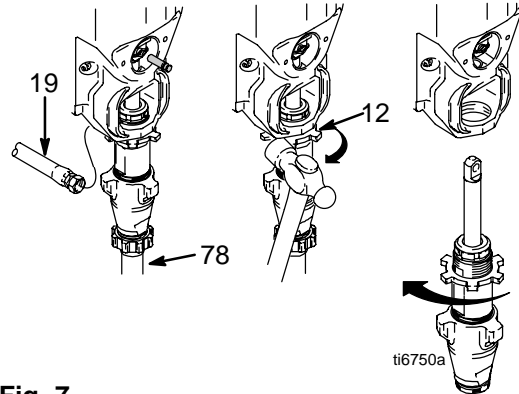

Fig. 7
4. Fig. 7. Remove suction tube (78) and hose (19).
5. Loosen pump jam nut (12). Unscrew pump.
5. Fig. 7. Install suction tube (78) and hose (19).